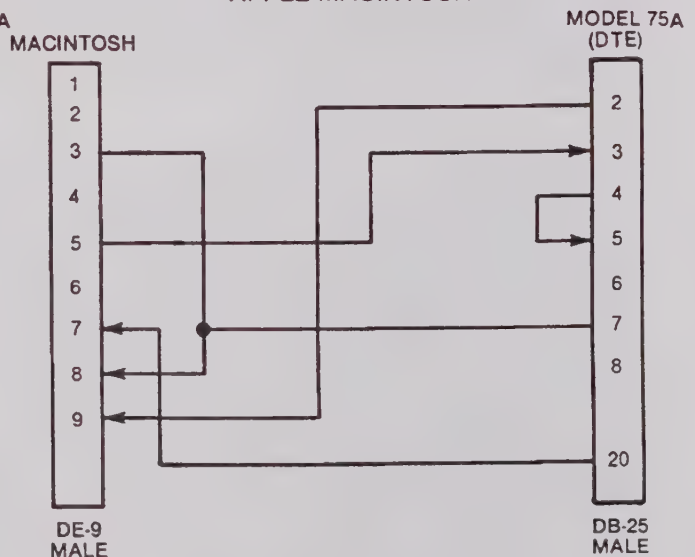

Figure 2-9. Typical Examples of Serial Cables
2. In most cases a straight-through cable can be used to connect the Model 75A with the other device. The Model 75A only requires the connection of pins 2, 3, 5, 7, and 20 but the other device may require more. Examples of typical cable assemblies are shown in figure 2-9. However, there are many interpretations of the RS-232-C standard and either of the following procedures (a or b) should be used to ensure that the control and handshake signals are properly connected.